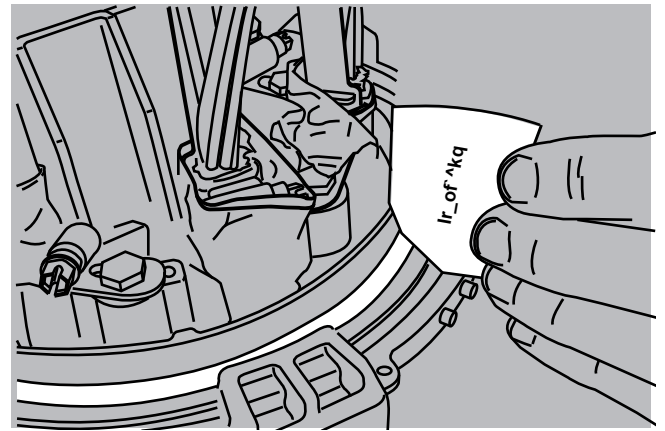

FIGURE 30
30. A small amount of lubricant should be applied to the end plate "O" ring each time prior to closing following re-entry. (Figure 30)